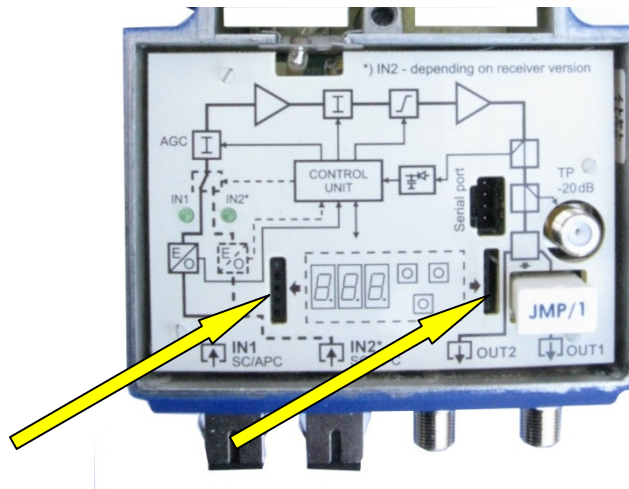

Fig. 8.1. Layout of plug-in ports for installing the local monitoring module.
To install the C-729 local monitoring module, you should plug the module into the appropriate ports - see figure 8.1.
- Fig. 8.1. Layout of plug-in ports for installing the local monitoring module.